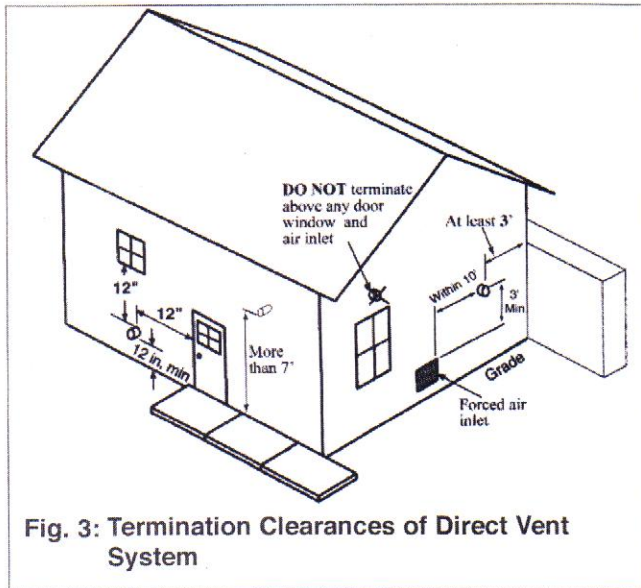

Fig. 3: Termination Clearances of Direct Vent System
6. The vent termination must also maintain the following clearances; as shown in Fig.3.